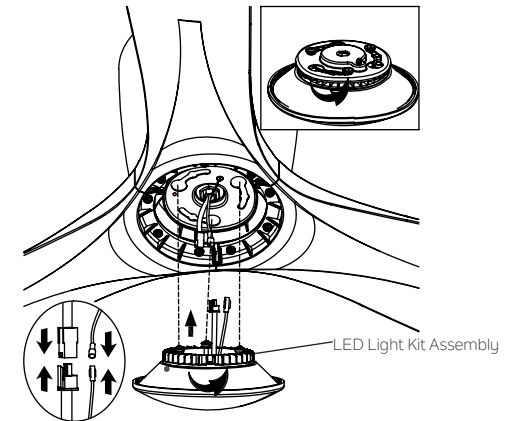

Fig. 14
**Step 1.** Hold the LED light kit assembly close the motor and connect the pin connectors together. (Fig. 14)
**Step 2.** Tuck the connections neatly into the LED light kit assembly, raise the LED light kit assembly up to the motor, align the red dot labels, and twist screws on top of LED light kit toward the narrow end of the slotted holes on the motor as shown. Make sure all screws lock in place and LED light kit no longer turns. (Fig. 14)